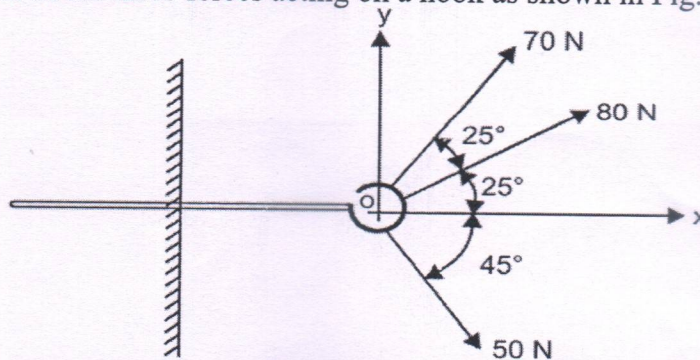

Fig. 3.1
1. Determine the resultant of the three forces acting on a hook as shown in Fig. 3.1.